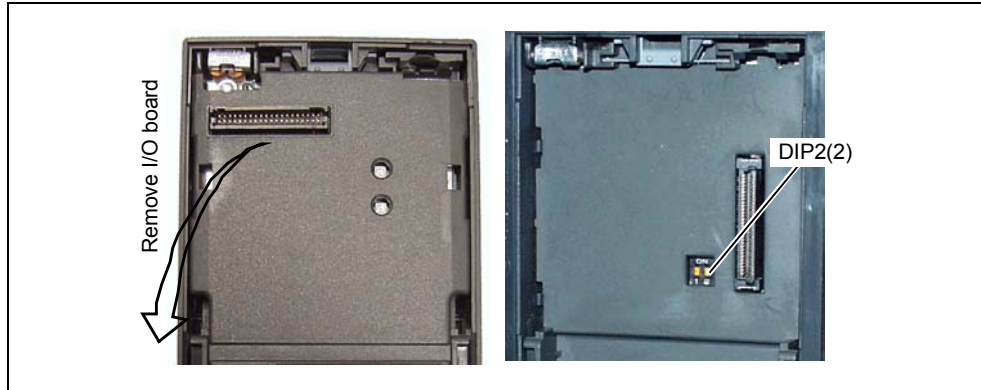

Fig. 3-19 DIP switch to change-over between 50/60 Hz
The frequency setting made in the factory can be adapted to the North American market, without requiring any parameterization using an operator panel or PC tool using the DIP2(2) switch (refer to Fig. 3-19) under the I/O board (refer to the Appendix C when removing the I/O board).
Switch DIP2(1) (refer to Fig. 3-19) under the I/O board has no function.